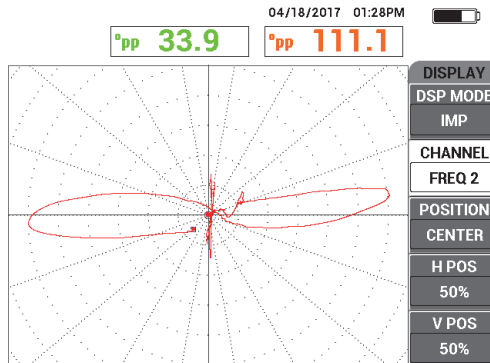

Figure 5-202 Verification signal in FREQ 2
9. Scan the entire length of the tube, and verify that the thru-wall flaw is vertical and the support ring signal is not clipped. Adjust as required (see Figure 5-202 on page 271).